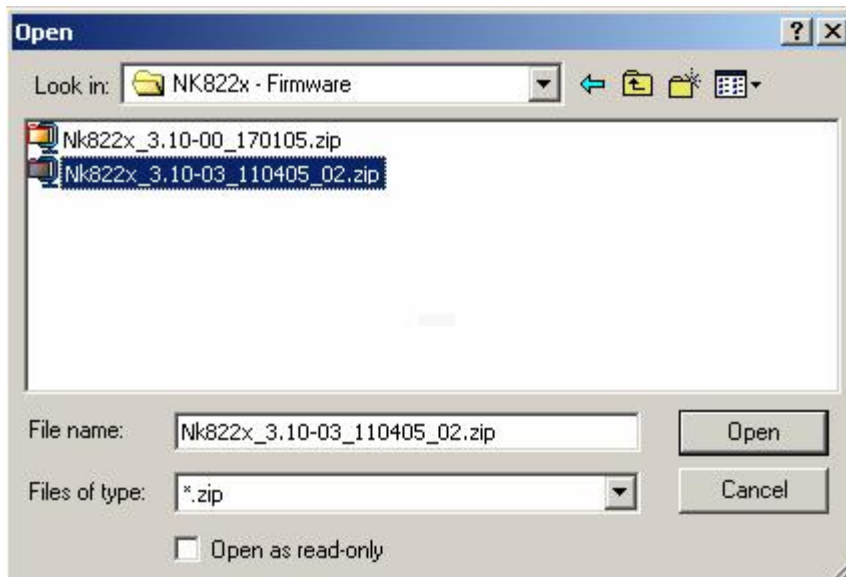

Fig. 9 Opening the new NK822x firmware files
- And finally click 'Open' (Fig. 9).